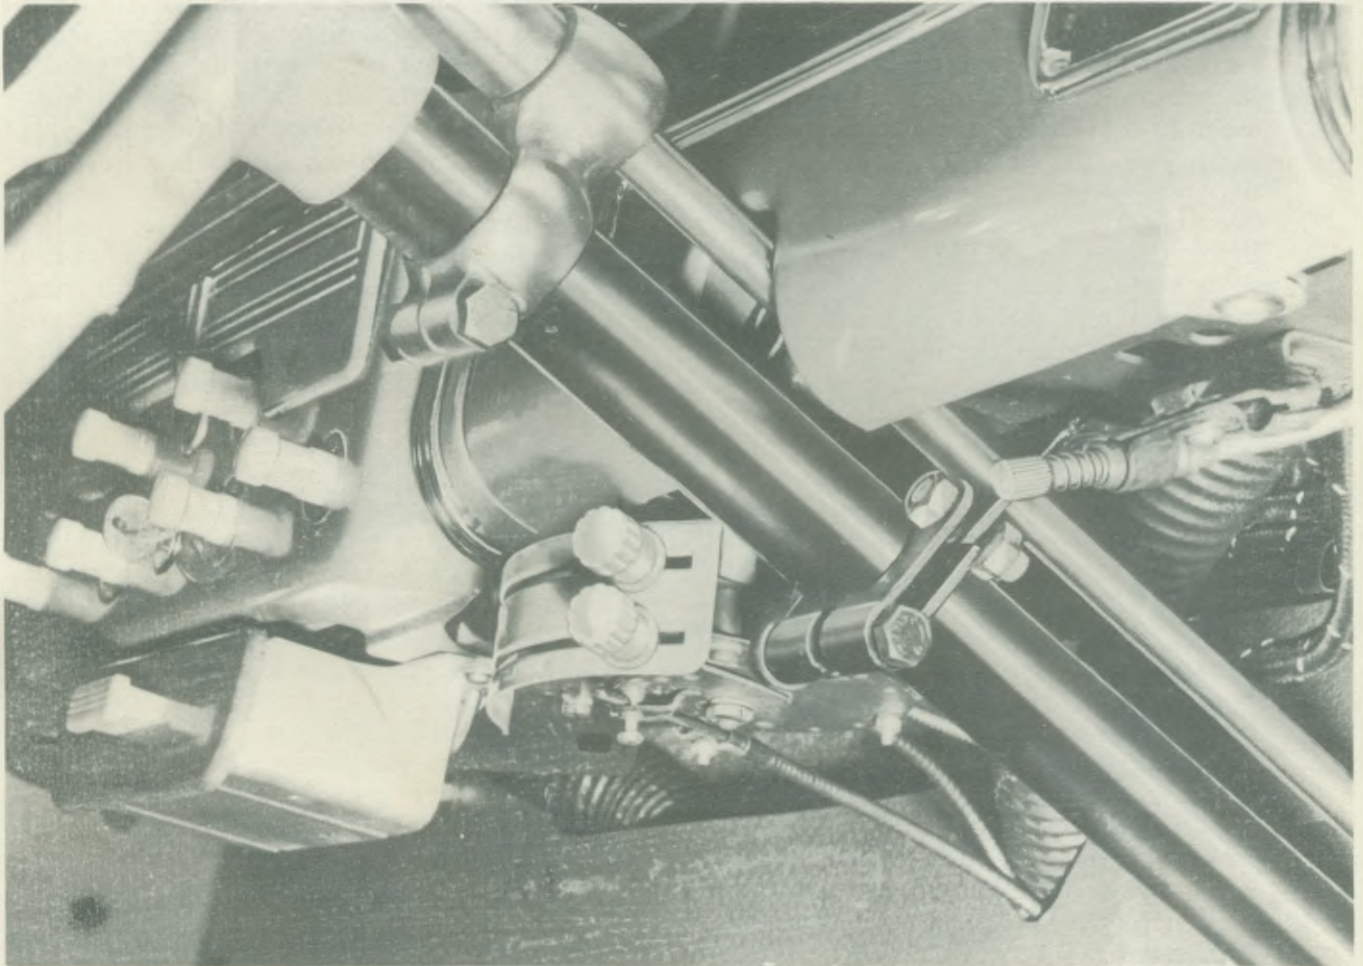

Fig. 20. Showing the position of the control assembly on a R.H.S. Model
13. Fit the control lever assembly under the fascia panel just to the left or right hand side of the Instrument Panel for R.H. or L.H. Steering Models respectively (see Fig. 20). Two existing screws should be removed and